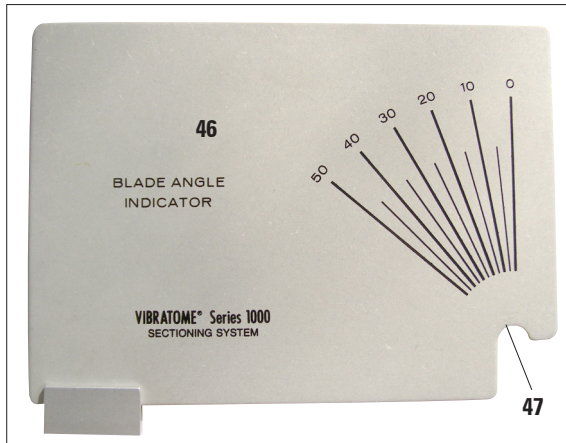

Fig. 40
- The accessories include a blade angle indicator (46) for this purpose.
- To read the blade angle using this indicator, hold the angle indicator against the left side of the blade holder. The notch (47) must be touching the mounting bar (49) of the blade holder (50) and the lower edge must be touching the specimen tray. (Fig. 40/41).